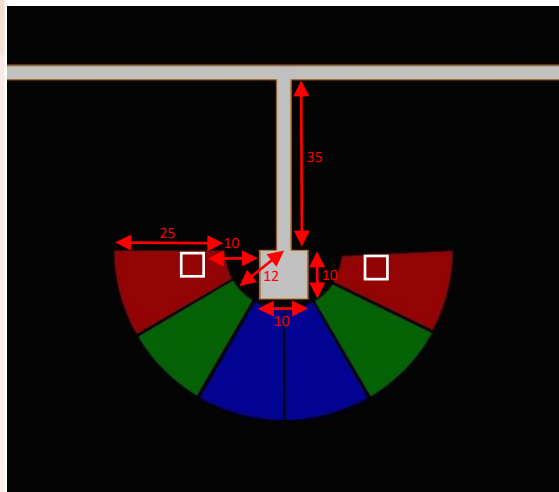
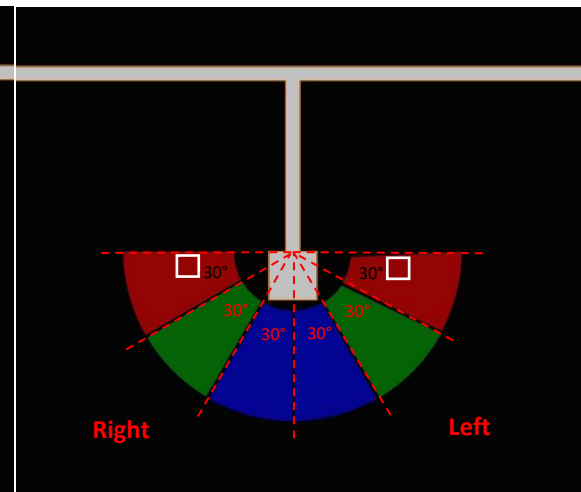

Figure 3.3
Figure 3.4
- The dimensions of the Area-2 is shown in the Figure 3.3 and Figure 3.4.